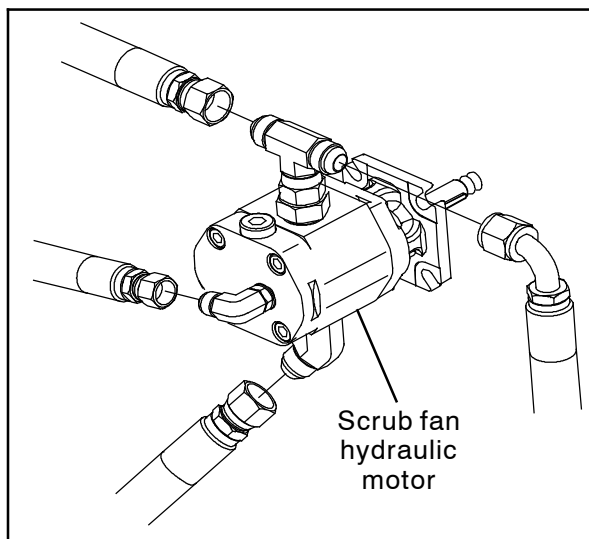

FIG. 7
6. Disconnect the four hydraulic hoses from the fittings on the scrub fan motor. Leave fittings installed on the scrub fan motor. (Fig. 7)